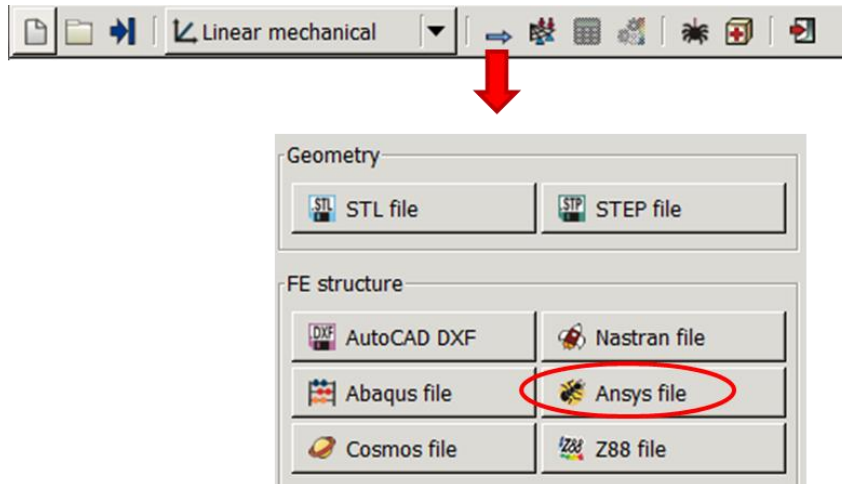

Figure 26: Accessing the ANSYS converter Z88ANS
3. Import the simulation model into Z88Aurora as described in figure 26. For this purpose select *File > Import > ANSYS file*.